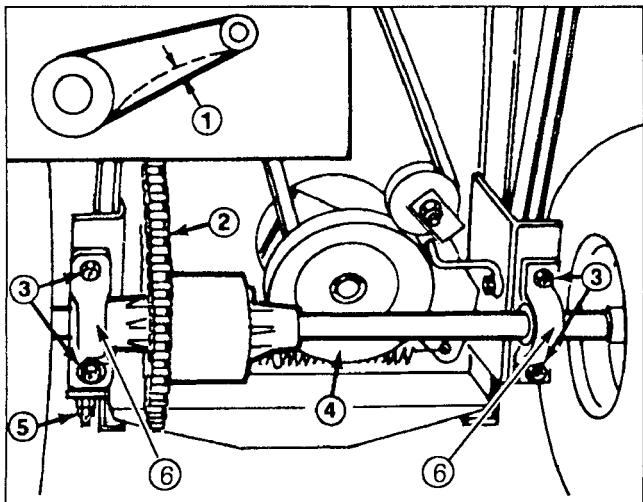

Figure 26
1. Check deflection of drive chain by lifting up on chain with moderate pressure at mid span (Fig. 26). There should be 1/8 of an inch (3 mm) deflection (Fig. 26). If deflection is not as specified, an adjustment is required — steps 2-6.